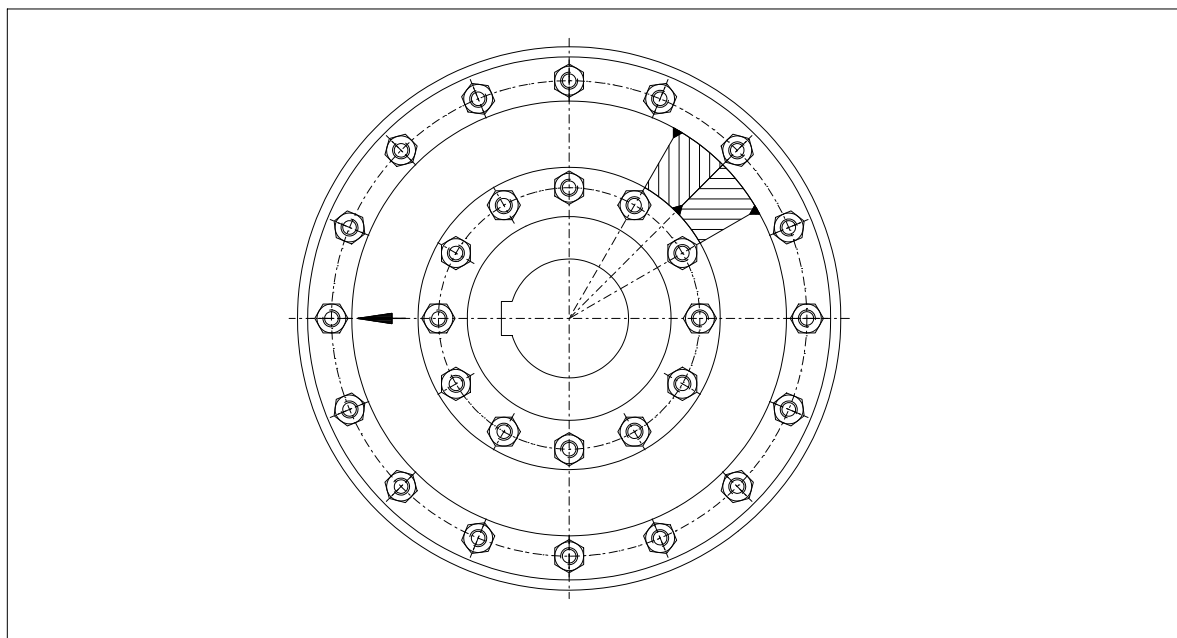

Fig. 9: Wear check
The functionality of the ELPEX coupling can be checked only by the torsional displacement between the in- and output side. Check that three triangles have been applied to the elastic ring (5) (see figure 9). If the inner triangle is inside the zone enclosed by the two outer triangle,s the coupling is fully functional. As soon as the inner triangle is to the right or left of this zone, the elastic rings (5) must be replaced.